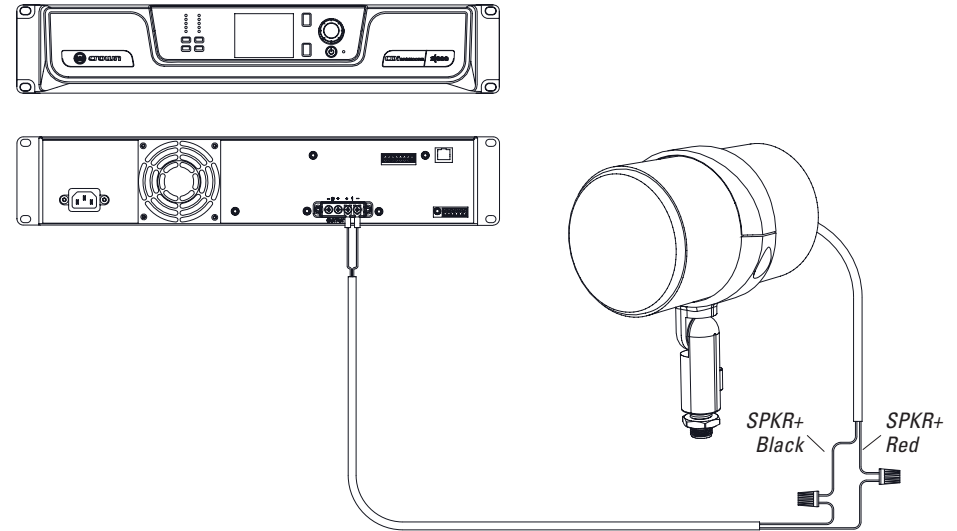

Figure 18
2. Connect the red (+) speaker input pigtail wire to the (+) wire from the amplifier output, and the black (-) speaker input pigtail wire to the (-) wire from the amplifier (see Figure 18). Use crimp connectors or wire nuts to make a secure connection. For greater reliability make the connection inside an underground IP65 waterproof electrical junction box.